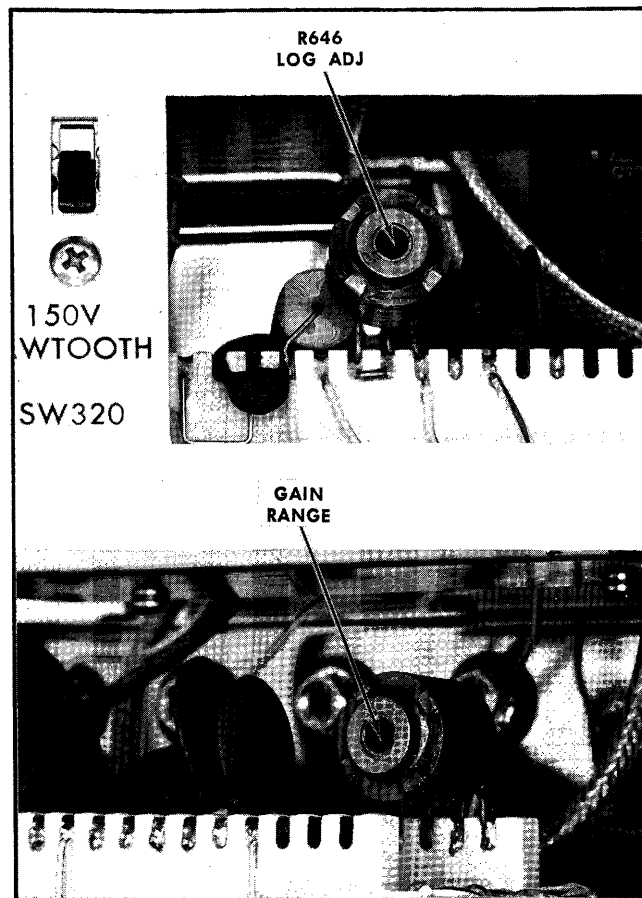

Fig. 4-23. Location of LOG ADJ and GAIN RANGE adjustments.
h. Check for 6 cm of vertical deflection. If there is not 6 cm of deflection, adjust the GAIN RANGE, R107 (Fig. 4-23).
m. Check for 6 cm of vertical deflection. If there is not 6 cm of deflection, set the LOG ADJ, R646 (Fig. 4-23).